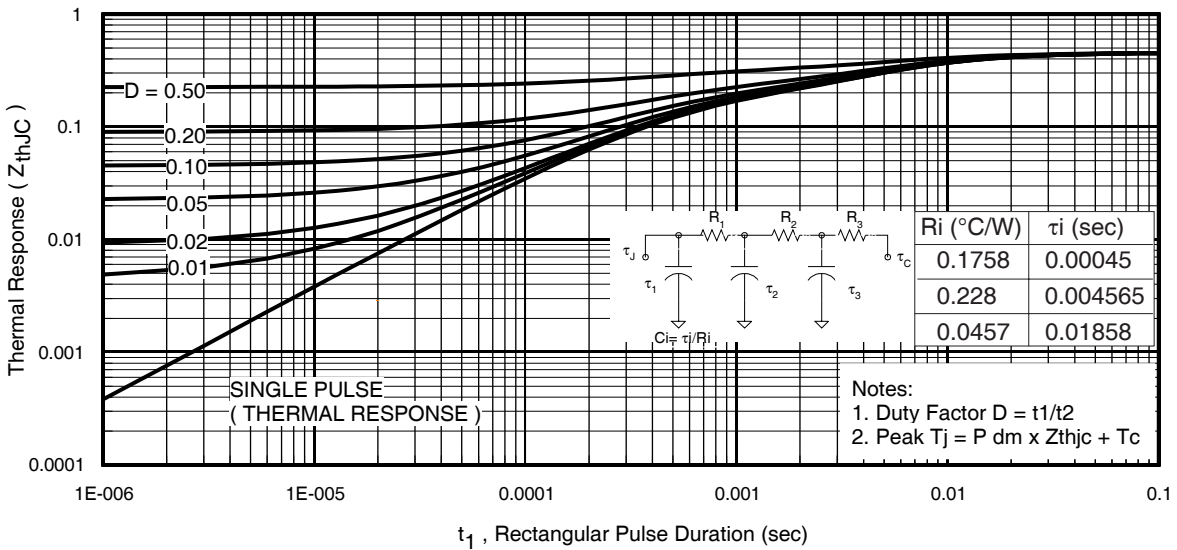
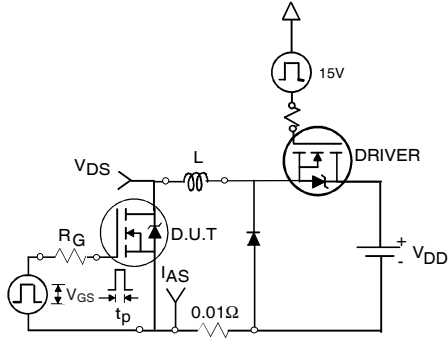

Fig 11. Maximum Effective Transient Thermal Impedance, Junction-to-Case
Fig 12a. Unclamped Inductive Test Circuit
- ① Repetitive rating; pulse width limited by max. junction temperature. (See fig. 11).
- ② Limited by T_{Jmax} , starting $T_J = 25^\circ\text{C}$, $L = 0.17mH$, $R_G = 25\Omega$, $I_{AS} = 75A$, $V_{GS} = 10V$. Part not recommended for use above this value.
- ③ Pulse width $\leq 1.0ms$; duty cycle $\leq 2\%$.
- ④ $C_{oss\ eff.}$ is a fixed capacitance that gives the same charging time as C_{oss} while V_{DS} is rising from 0 to 80% V_{DSS} .
- ⑤ Limited by T_{Jmax} , see Fig.12a, 12b, 15, 16 for typical repetitive avalanche performance.
- ⑥ This value determined from sample failure population. 100% tested to this value in production.
- ⑦ R_{θ} is measured at T_J of approximately 90°C .
3. Equation below based on circuit and waveforms shown in Figures 12a, 12b.
$Z_{thJC}(D, t_{av})$ = Transient thermal resistance, see figure 11)